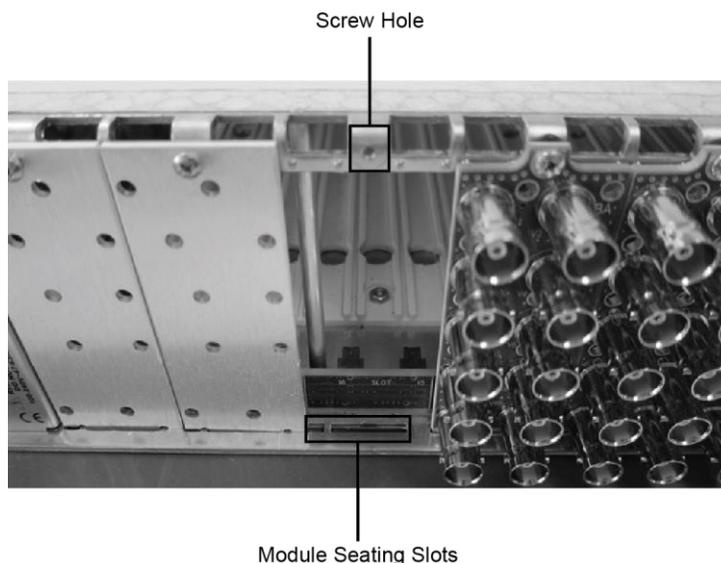

Figure 2.12 Rear Module Installation — OG-3-FR Frame
4. Seat the bottom of the Rear Module in the seating slot at the base of the frame back plane. (Figure 2.12). Refer to the section “**Rear Modules for the OG-3-FR Series Frames**” for details.
5. Align the top screw of the Rear Module with the screw hole on the top edge of the frame back plane. (Figure 2.12)